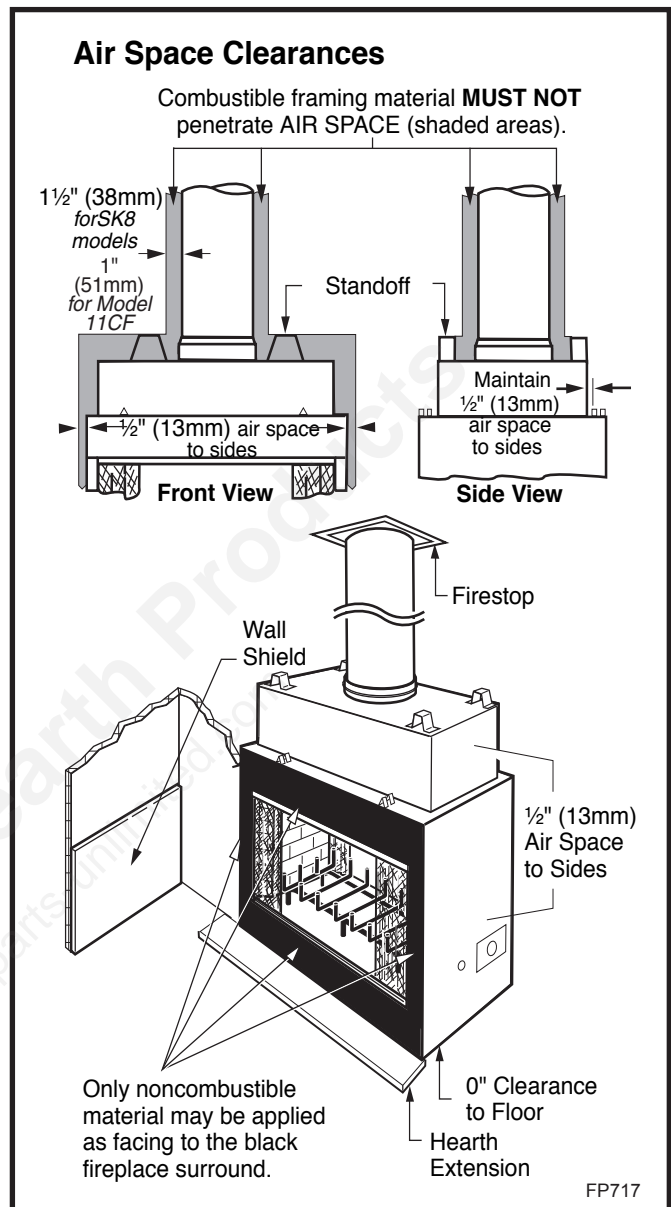

Fig. 20 Minimum clearances to combustibles.
There must be an air space (1½" (38 mm) with SK8 between outermost portion of chimney sections and any adjacent combustible surfaces. (Fig. 20) (Combustible surfaces include burnable materials such as: ceiling members, joists, flooring, combustible insulation and roof structures.)
**CAUTION:** All joints between the finished wall and the fireplace surround (top/sides) must be sealed with non-combustible material to prevent cold air leakage into the room. Only noncombustible material may be applied to the facing of the fireplace surround. (Black painted area) (Fig. 20)
**NOTE:** No side wall protection is required for fireplaces installed at 45° to two (2) side walls (corner installation). Adjacent combustible side walls that are within 16" (406 mm) of fireplace opening must be protected with an MHSC Wall Shield Model SP40 or a specifically built wall shield described in Figure 20 & 24.
All joints (top, bottom and sides) where wall or decorative facing material meets fireplace surround must be completely sealed with a noncombustible material. (Figs. 20 and 24)
The special wall shield design described in Figure 20 is an alternate method of adding protection to side walls and can be used in place of the SP40 with the same wall clearances specified for the SP40. Rt must =1.85 minimum.